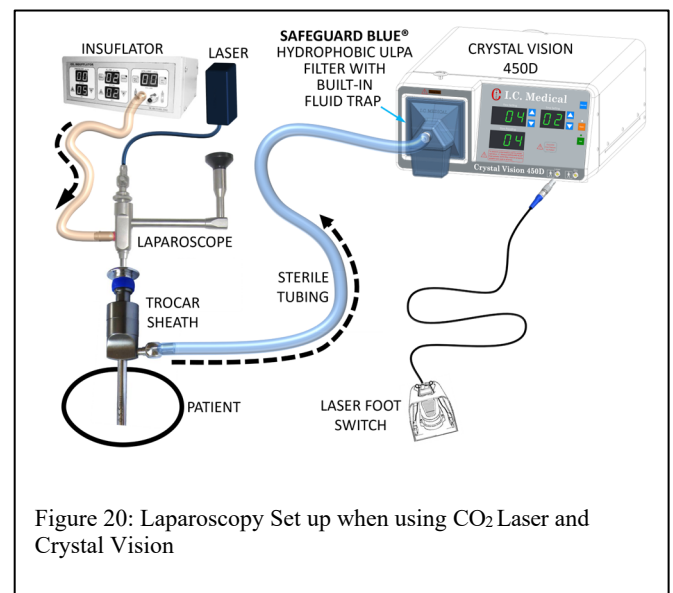

Figure 20: Laparoscopy Set up when using CO₂ Laser and Crystal Vision
2. Install and connect the I/A tubing, to Crystal Vision on one end, and to the CANULA (TROCAR) on the other end. Refer to Figure 20.